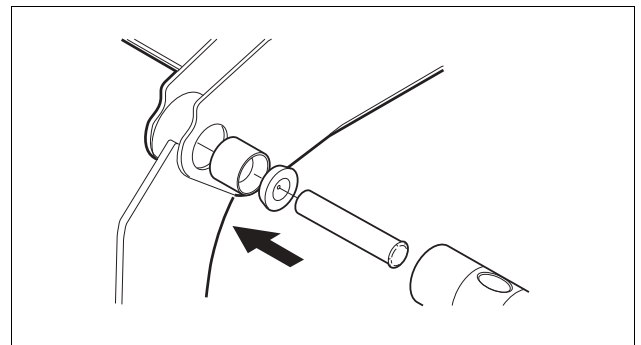

Fig. 45 Assemble the pin-joint
3. Assemble the pin-joint. *See Fig. 45.*